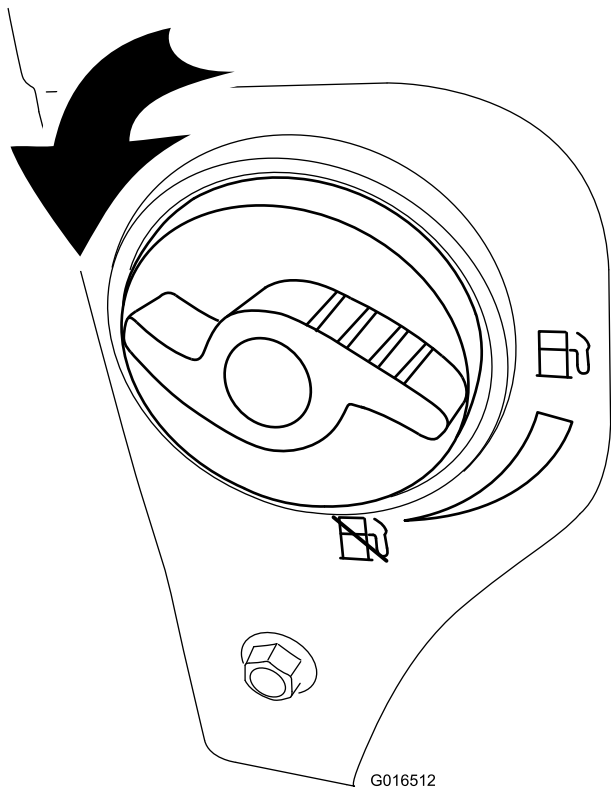

Figure 26
- 2. Turn the fuel shutoff valve 1/4 turn counterclockwise to open it (Figure 26).